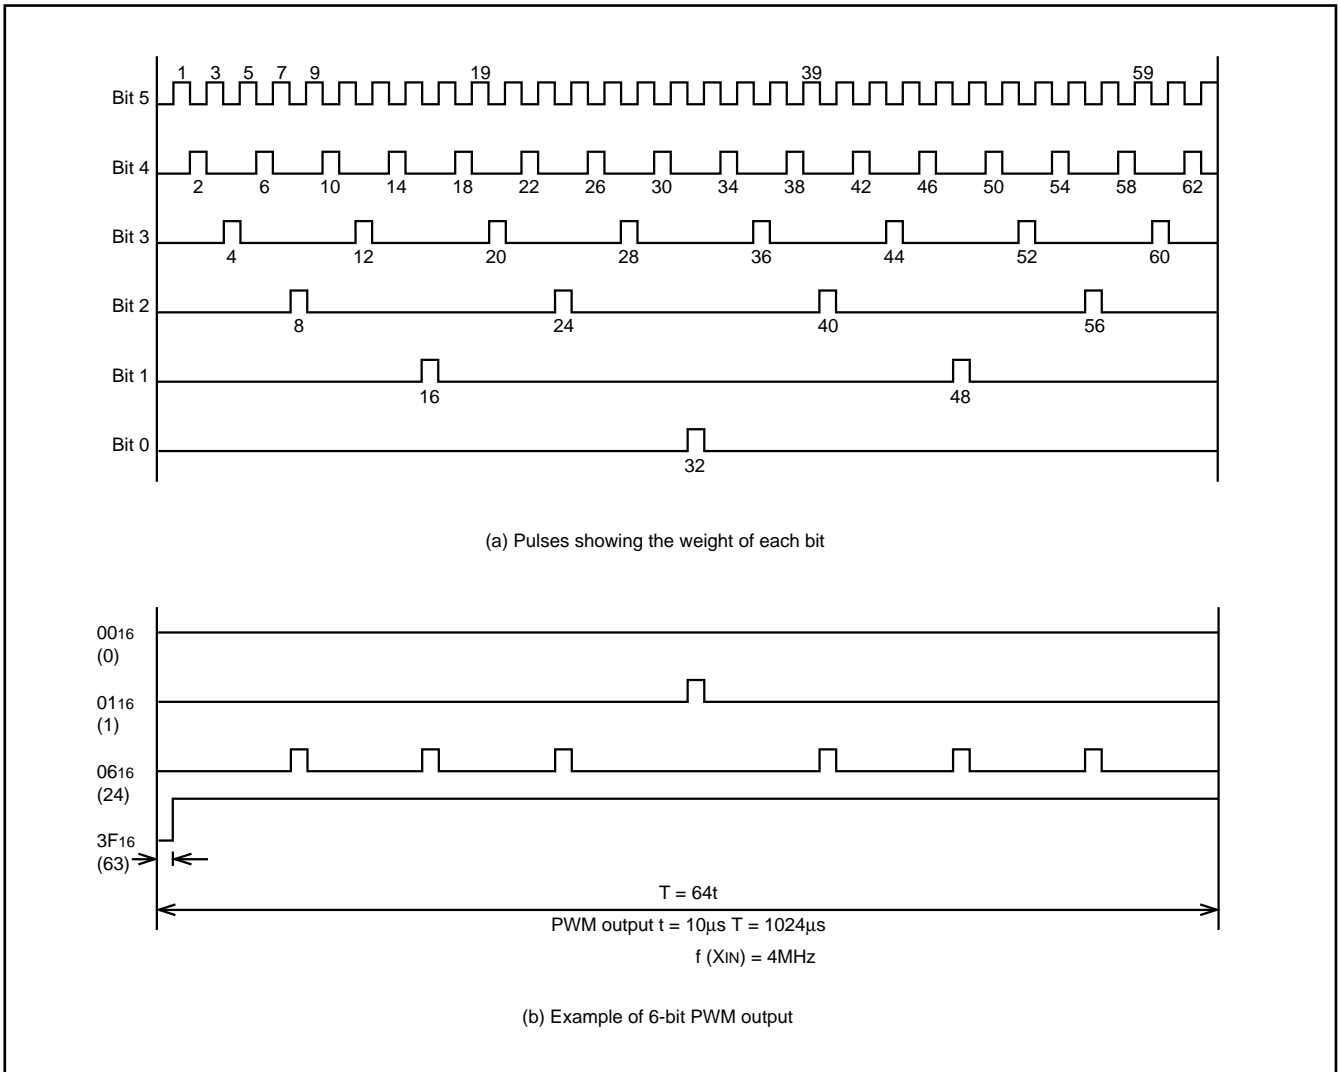

Fig. 13 6-bit PWM timing
(4) Operation of the 6-bit PWMs
The timing diagram of the eight 6-bit PWMs (PWM0-7) is shown in Figure 13. One period (T) is composed of 64 (2^6) segments. There are six different pulse types configured from bits 0 to 5 representing the significance of each bit. These are output
within one period in the circuit internal section. Refer to Figure 13 (a).
These can be selected by bits 0 through 5. Depending on the content of the 6-bit PWM latch, pulses from 5 to 0 are selected. The PWM output is the difference of the sum of each of these pulses. Several examples are shown in Figure 13 (b). Changes in the contents of the PWM latch allows the selection of 64 lengths of high-level area outputs varying from 0/64 to 63/64. A length of entirely high-level output cannot be output, i.e. 64/64.